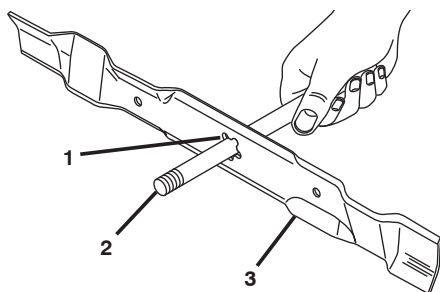

Figure 18
1. Slide blade on to an unthreaded portion of the steel bolt or pin and hold the bolt or pin parallel with the ground. If blade is balanced, it should remain in a horizontal position. If either end of the blade moves downward, sharpen the heavy end until the blade is balanced (Figure 18).